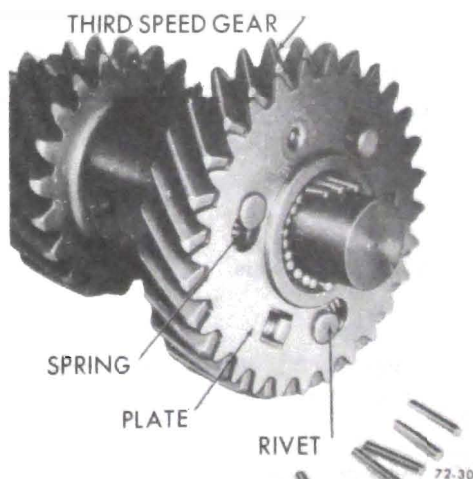

Figure 72-30 - Anti-rattle Gear
2. Check for broken anti-rattle gear springs. See Figure 72-30.